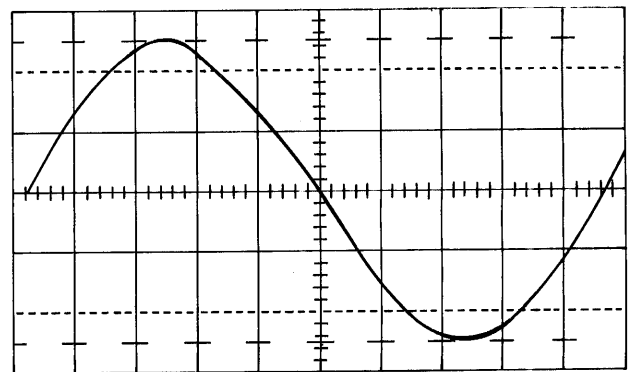

Figure 5-23. 100 kHz OSC Check
- d. Monitor output of 100 kiloHertz oscillator (see Figure 5-23).